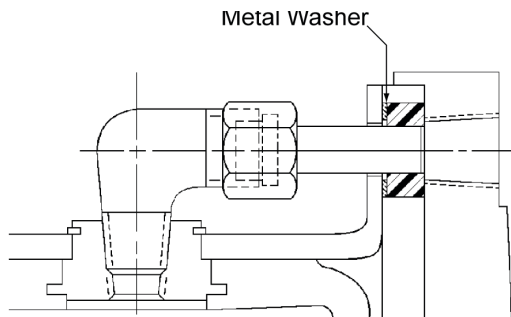

Figure 7
- 2.6.5 Install the air connection gaskets onto the air tubes. The metal backup washer is to be positioned toward the elbow (away from the spider). See **Figure 7**.
2.7.9 Install the air connection gaskets onto the air tubes. The metal backup washer is to be positioned toward the elbow (away from the spider). See **Figure 7**.